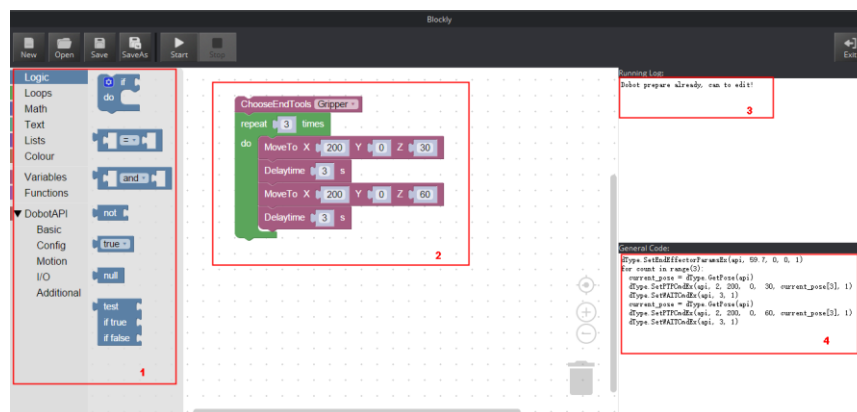

Figure 5.167 Blockly graphic programming
Step 2 Drag the blockly module on the left pane of the **Blockly** page to program, as shown in Figure 5.167.
The demo in Figure 5.167 is described as follows.